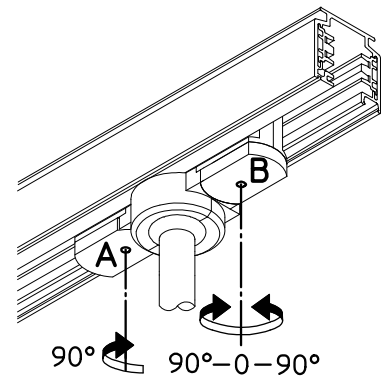

Figure 8: Installing Fixture on Track
Step 2. As shown in **Figure 8**, connect fixture to track as follows: